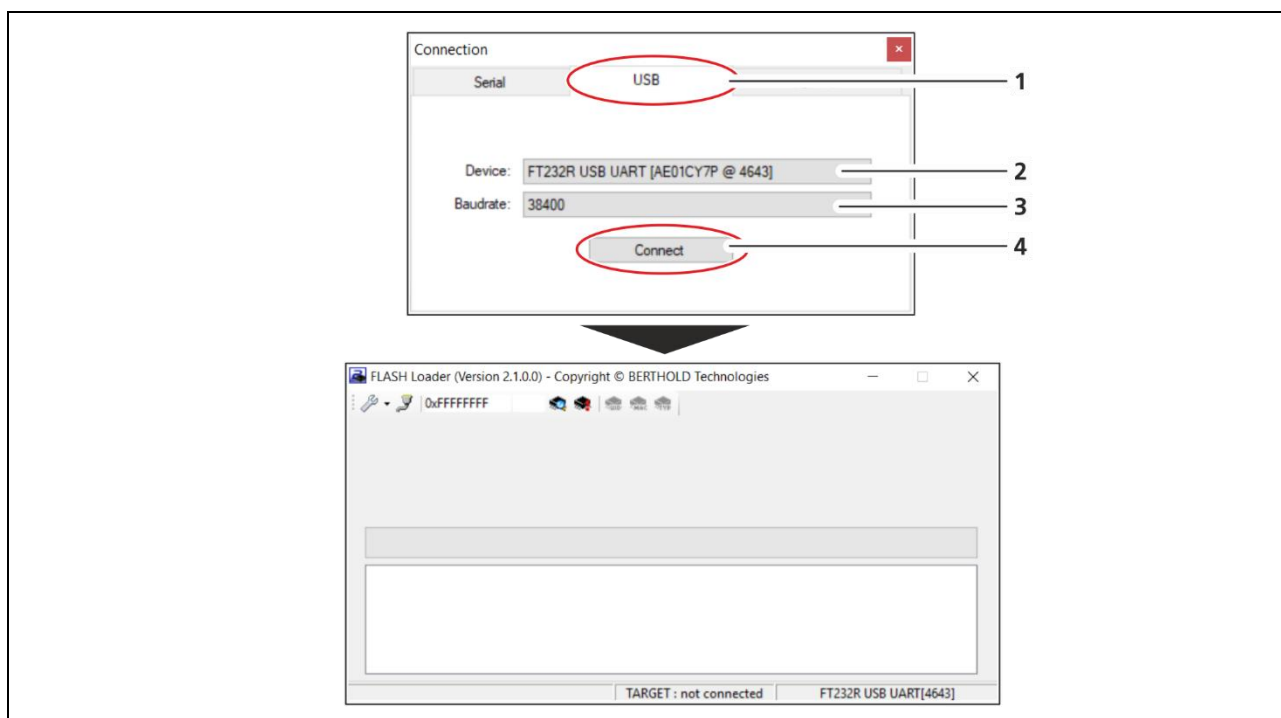

Fig. 3 Set up the connection PC – Service modem
17. Start the “FLASH Loader” software and click on the tab “USB” (Fig. 3, Pos.1).
18. Select the service modem under “Device” (Fig. 3, Pos.2).
19. Select 38400 Baud under “Baudrate” (Fig. 3, Pos.3).
20. Click on <Connect> (Fig. 3, Pos.4).